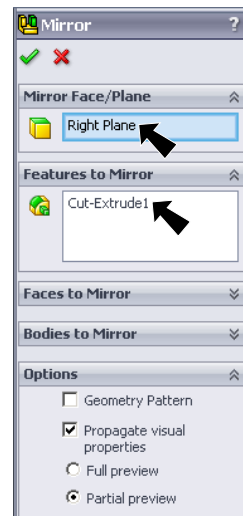
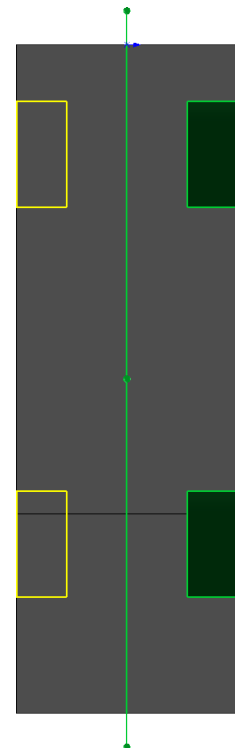

Fig. 28
Fig. 29
Step 3. In the Mirror Property Manager click **OK** , **Fig. 28** and **Fig. 29**.